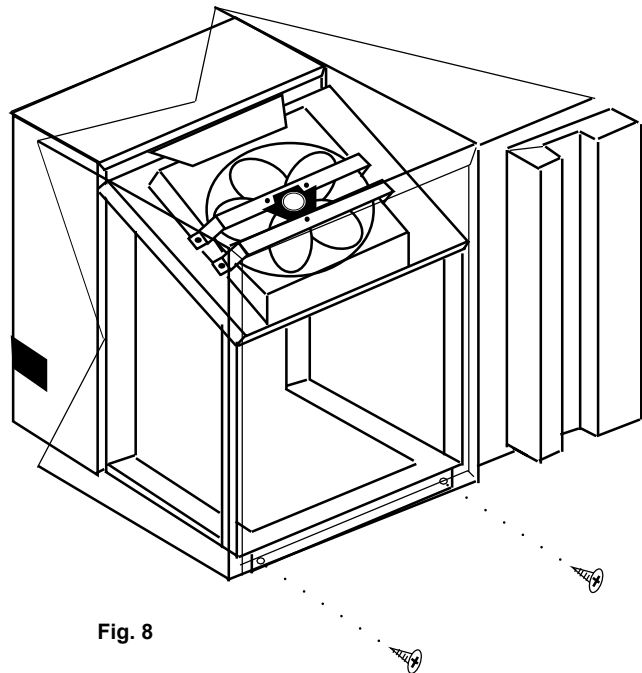

Fig. 8
6. Remove the four (4) Phillips head screws securing the powerpack to the cabinet front (see figure 8).